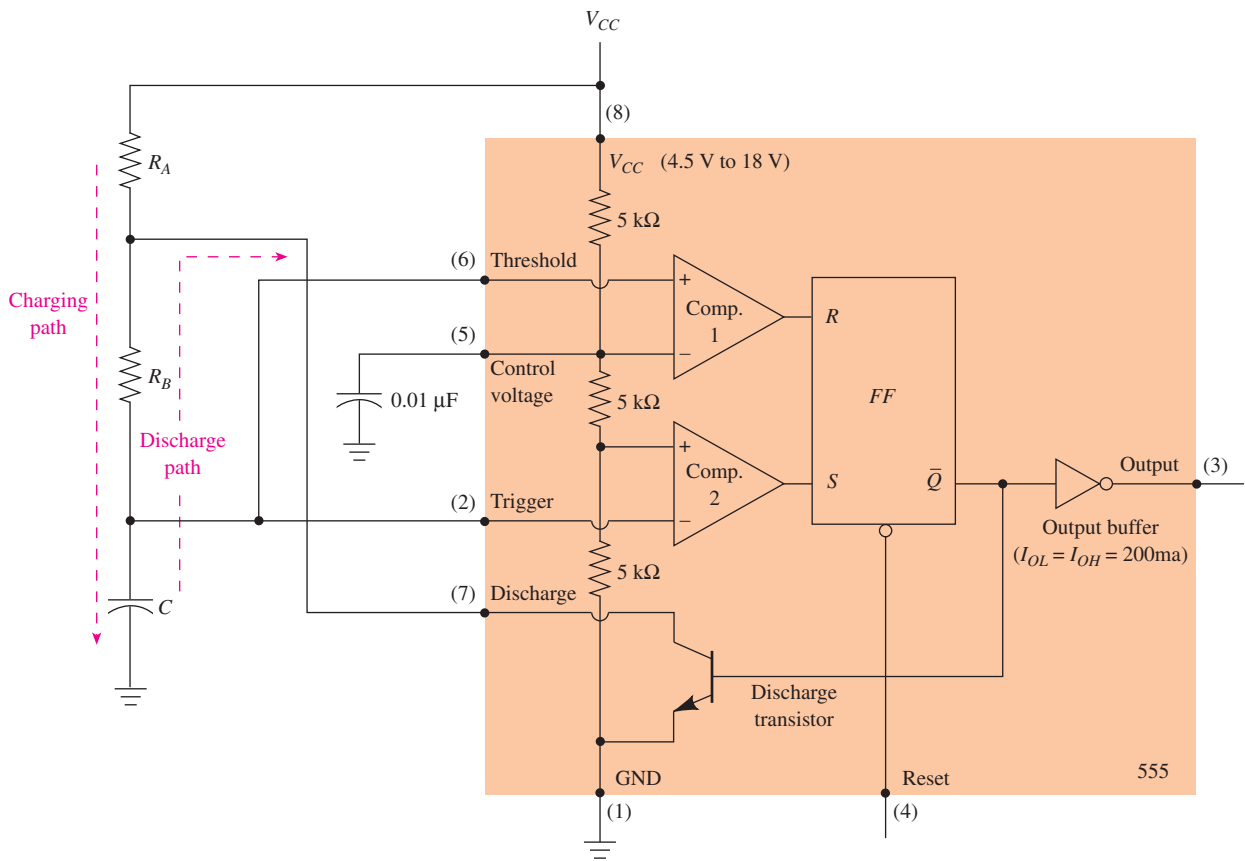

Figure 20 Simplified block diagram of a 555 timer with the external timer components to form an astable multivibrator.
The 555 is a very popular, general-purpose timer IC. It can be connected as a one shot or an astable oscillator as well as used for a multitude of custom designs. Figure 20 shows a block diagram of the chip with its internal components and the external components that are required to set it up as an astable oscillator.
The operation of the 555 connected in the astable mode shown in Figure 20 is explained as follows:
3. The trigger forces the lower comparator HIGH (see Figure 20), which sets the flip-flop, making V_{out} HIGH and opening the discharge transistor (pin 7).